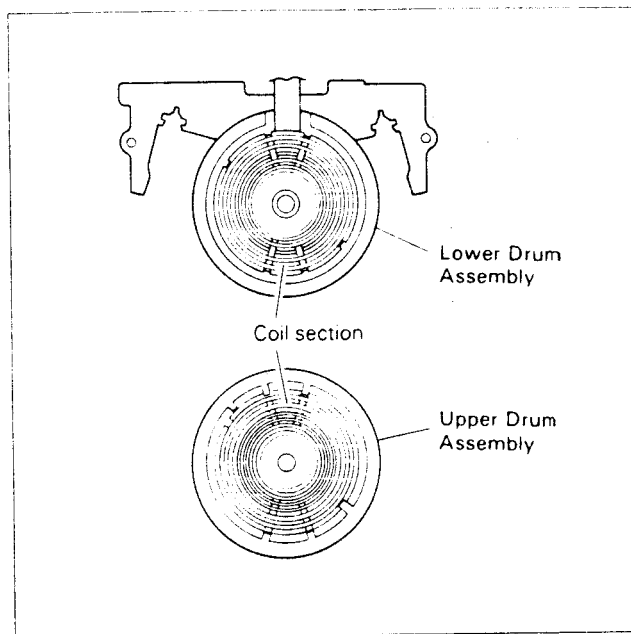

Fig. 2-4-6
- 2) Set a new Washer on the Drum shaft (see Fig. 2-4-6).